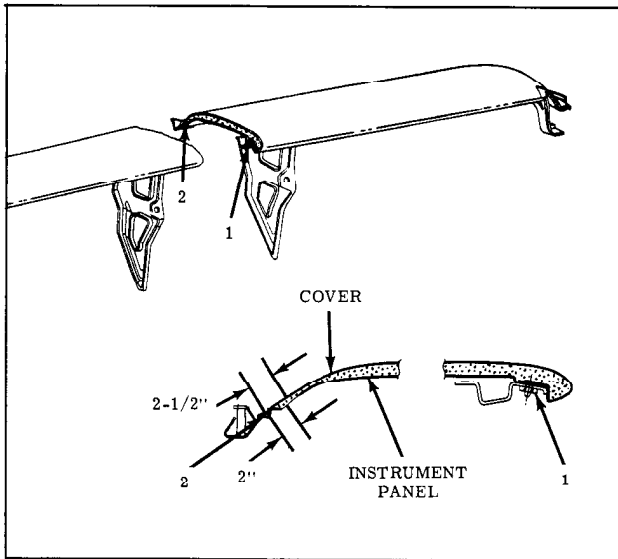

Fig. 17-11 Panel Cover Installation (S88 and 98)
- From underside of instrument panel at rear, remove cover attaching nuts (View "1" Fig. 17-11) and with a putty knife or other suitable tool, carefully loosen cemented area and remove cover assembly. Remove or loosen necessary chassis items.
2. Apply a thin coat of neoprene type adhesive to the instrument panel. (Fig. 17-11) Apply a 2" wide strip of adhesive to the front edge and ends of the upper instrument panel.
3. Apply a heavy coat of adhesive 2-1/2" wide to the instrument panel cover. (View "2" Fig. 17-11)